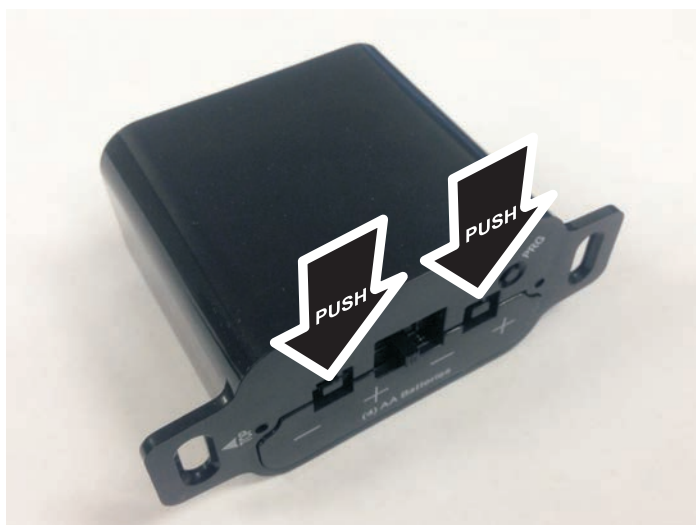
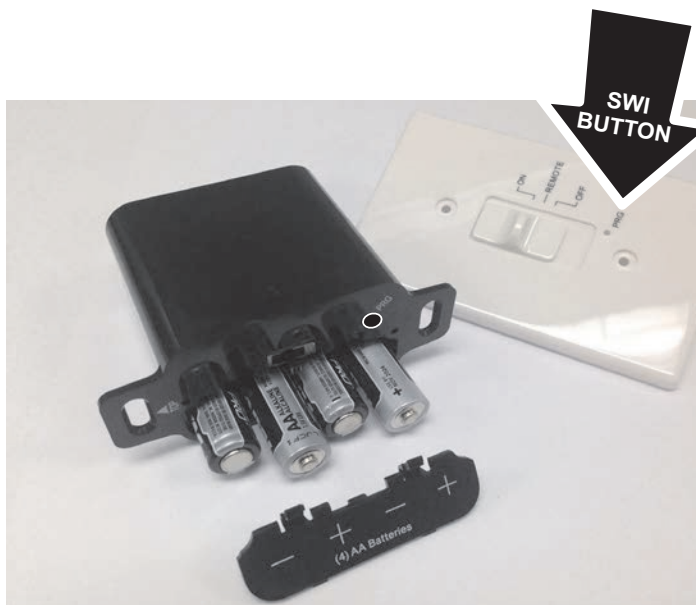

Figure 71
Figure 72
1. Remove the wall cover. Remove cover on the wall mounted battery back-up holder. **See Figure 71.** Install the four AA batteries into the wall mounted battery back-up holder then reinstall the cover. **See Figure 72.**
3. Set the wall remote slide switch to the REMOTE position. **See Figure 72.**
4. Press and release the SWI button on the wall control with a paper clip and the IFC module will beep three times to indicate the IFC module is ready to synchronize with the transmitter within ten seconds. **See Figure 72.**